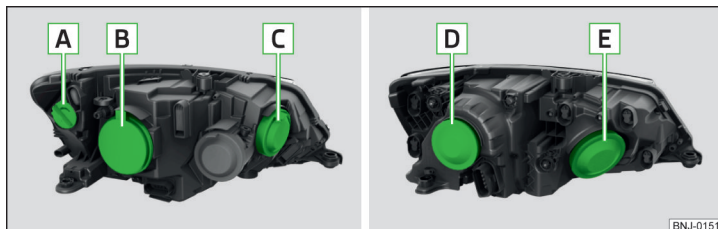

Fig. 295 Left headlamp: halogen/halogen projector headlights
Bulb arrangement » Fig. 295
➤ Remove the protective cap **[B]** » Fig. 295 on page 237.
➤ Fit the protective cap **[B]** » Fig. 295 on page 237.
- › Remove the protective cap  » Fig. 295 on page 237.
- › Fit the protective cap  » Fig. 295 on page 237.